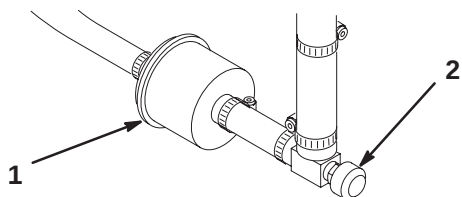

Figure 41
An in-line filter is incorporated into the fuel line between the fuel tank and carburetor (Fig. 41). Replace the filter every 800 hours or sooner if the fuel flow is restricted. Be sure the arrow on the filter is pointing away from the fuel tank.
- Close the fuel shut-off valve, loosen the hose clamp (Fig. 41) on the carburetor side of filter and remove the fuel line from the filter.
- Place a drain pan under the filter, loosen the remaining hose clamp, and remove the filter (Fig. 41).